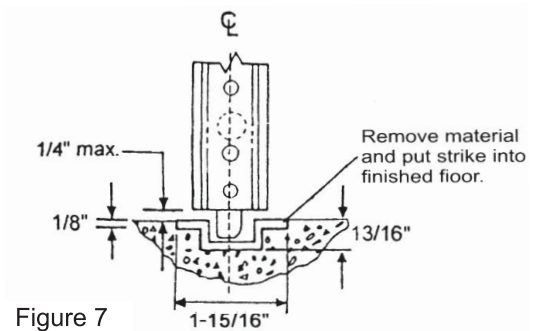

Figure 7
- e. Install bottom strike into finished floor. Be sure to align centerline of bottom latch with centerline of bottom strike. (See Figure 7.)